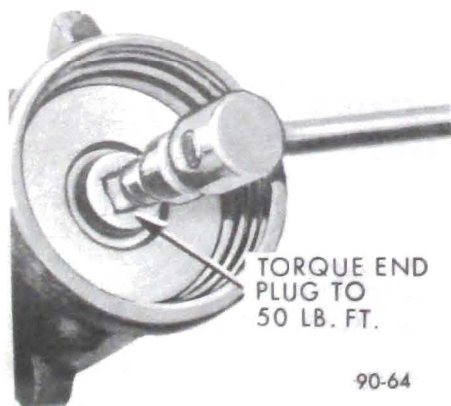

Figure 90-76 Torquing Rack-Piston Nut End Plug
7. Install rack-piston end plug using 1/2" square drive. Torque plug to 50 lb. ft. See Figure 90-76.